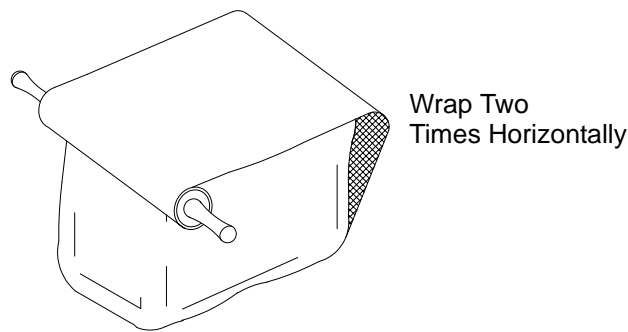

Figure 13. Horizontal Wrap
3. Wrap two times in the horizontal direction with the *copper* side facing the item being wrapped (figure 13).